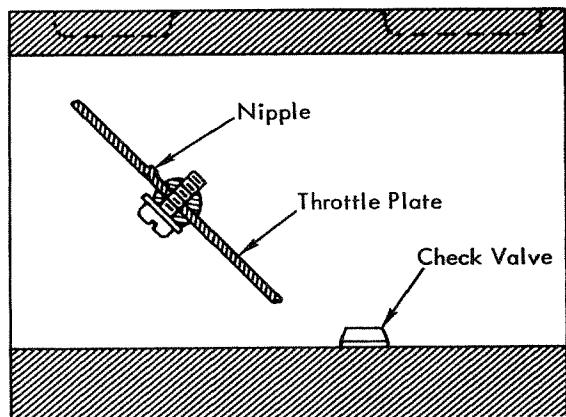

FIGURE 25
- When installing the throttle plate in the shaft, the nipples on the plate go toward the check valve. This will place the bevel on the edges of the plate in the correct relationship to the air passage (Figure 25). Install the throttle shaft return spring. Slide the plate into the shaft. Then open the throttle and let the spring snap the plate closed several times in order to center the plate in the air passage. Install the throttle plate screw, tighten it securely and swage it to prevent its loosening under vibration. Do not install the throttle plate backwards. Installa-